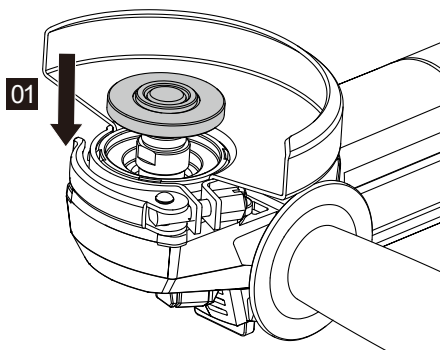

Figure 6
3. FITTING THE DISCS (NOT SUPPLIED) (SEE FIG. 6 - 8)